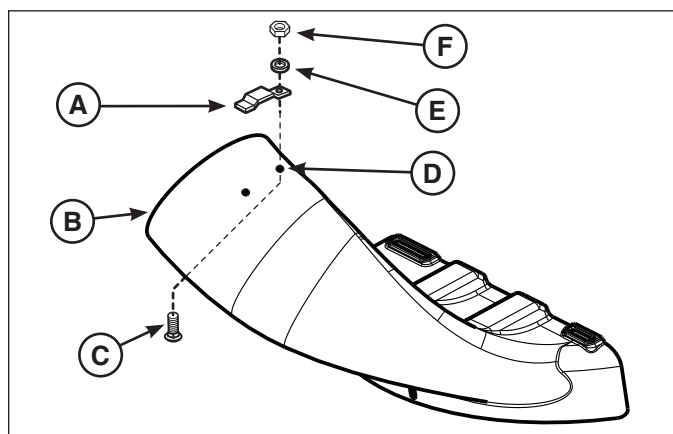

Figure 10
1. Place the tube latch (A, Figure 10) onto the catcher boot (B) as shown.
2. Insert a 1/4 x 3/4" carriage bolt (C) through the mounting hole (D) and latch, and secure with an internal tooth lock washer (E) and hex nut (F). Tighten securely.